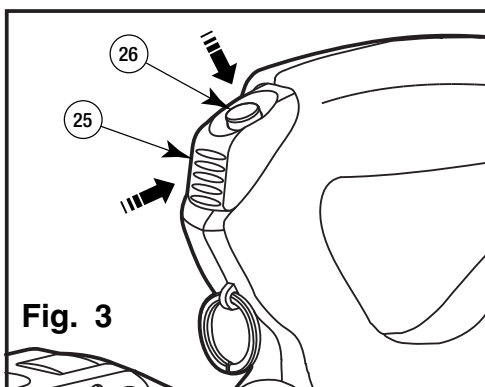

Fig. 3
2.2 DIE ADVANCEMENT (Refer to Fig. 3)
- Press the operating button (26) to activate the motor-pump and advance the lower die. To halt the advancement, release the operating button (26) and the motor will stop.